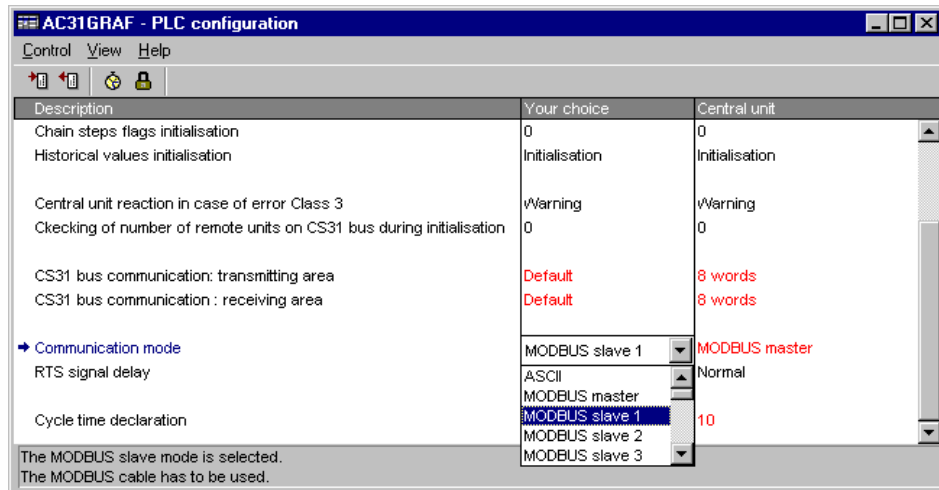

Figure 7-7 : Configuration of COM1 through PLC configuration window in AC31GRAF
- ⇒ If you use the serial interface: Select the MODBUS[®] address from the list of the "Communication mode" line (see Figure 7-7)